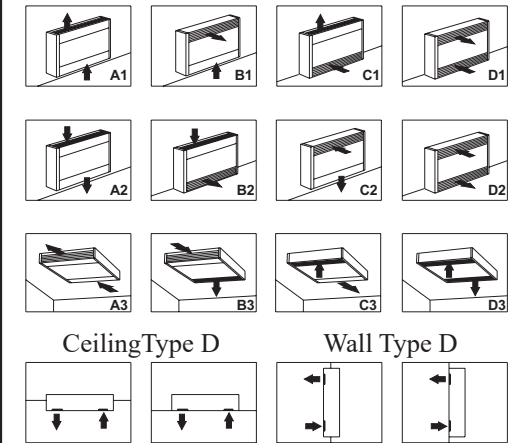

Fig. 1
- Insert a pointed object in the reset hole (See Fig. 1).